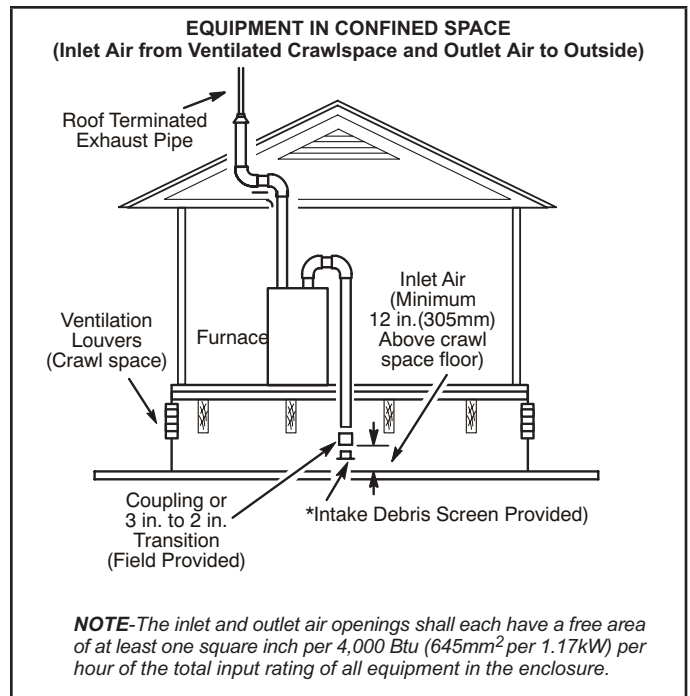

FIGURE 27
- 2 - If intake air is drawn from a ventilated crawlspace (FIGURE 27) or ventilated attic (FIGURE 28) the exhaust vent length must not exceed those listed in TABLE 26. If 3" diameter pipe is used, reduce to 2" diameter pipe to accommodate the debris screen.